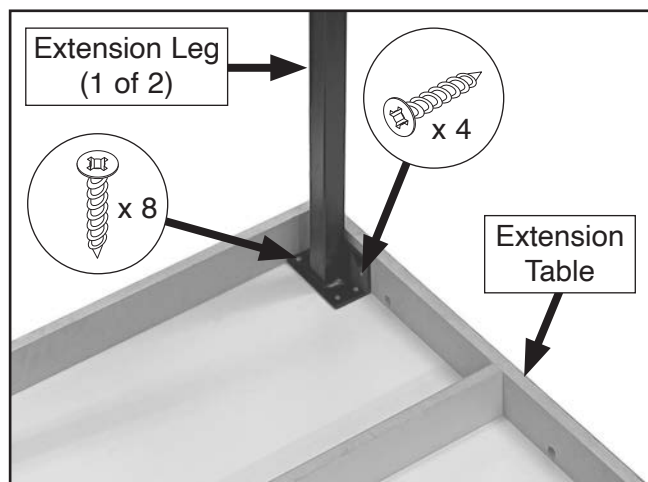

Figure 10. Extension leg attached to bottom of extension table.
15. At corners of one end of extension table, position each extension leg upright 90° to bottom of table, then mount with (12) #8 x 3/4" wood screws (see **Figure 10**).